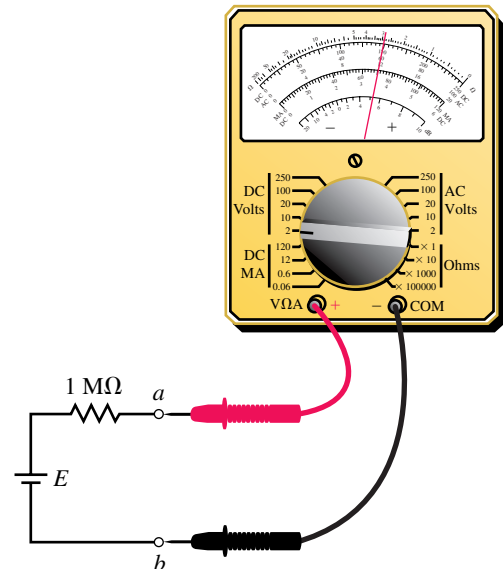

FIGURE 6–90
50. Repeat Problem 49 if the 500-k Ω resistor of Figure 6–89 is replaced with a 2-M Ω resistor.
EWB FIGURE 6–89
51. An inexpensive analog voltmeter is used to measure the voltage across terminals a and b of the circuit shown in Figure 6–90. If the voltmeter indicates that the voltage $V_{ab} = 1.2 \text{ V}$, what is the actual voltage of the source if the resistance of the meter is 50 k Ω ?
55. **EWB** Use Electronics Workbench to simulate a voltmeter with an internal resistance of $1\text{ M}\Omega$ used to measure voltage as shown in Figure 6–89.
56. **EWB** Use Electronics Workbench to simulate a voltmeter with an internal resistance of $500\text{ k}\Omega$ used to measure voltage as shown in Figure 6–89.
57. **PSpice** Use PSpice to solve for the current through each resistor in the circuit of Figure 6–82.